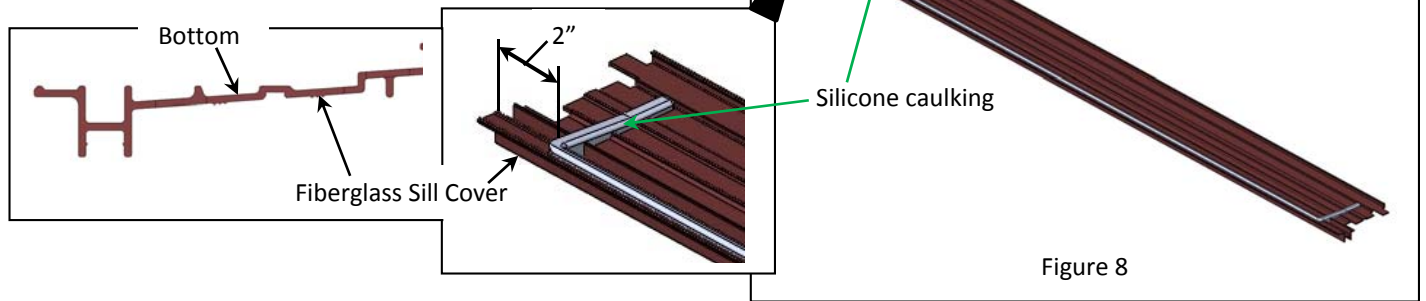

Figure 8
- 7) Apply a 3/8" bead of silicone caulking to the bottom side of the fiberglass sill cover, in a U-shaped pattern as shown (Fig. 8). Start the pattern approximately 2" from the end of the cover.